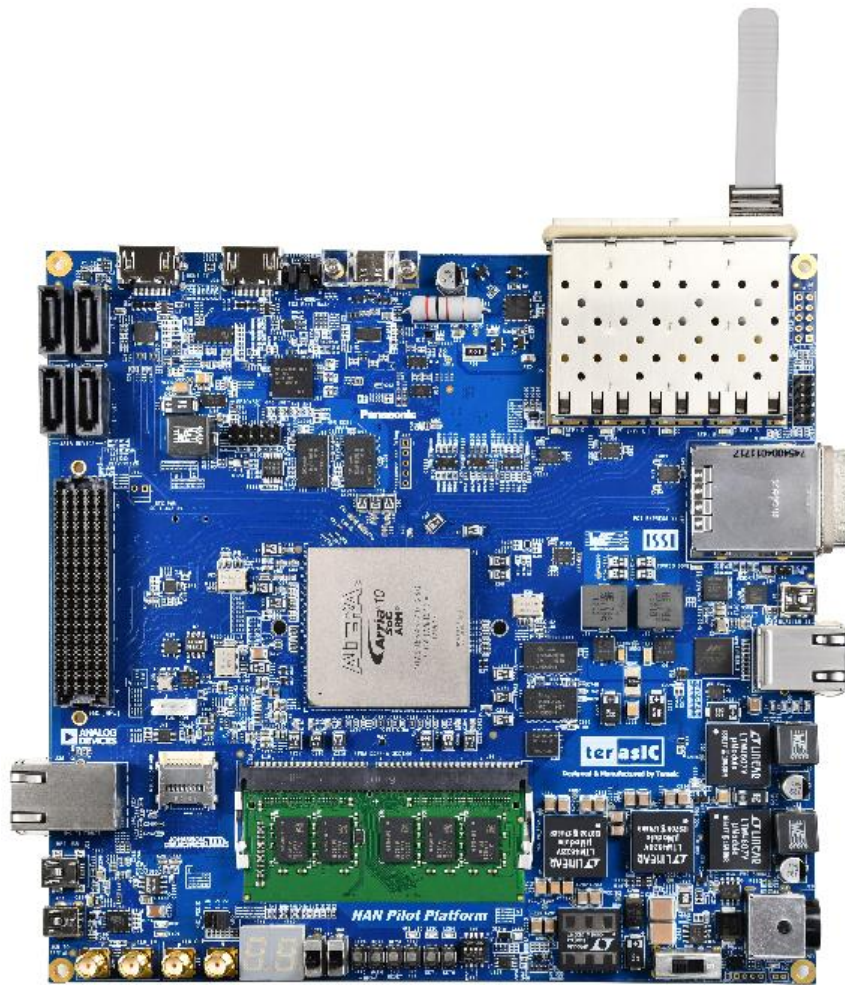

Figure 2-28 SFP+-A loopback on the HAN Pilot Platform
1. Insert a SFP+ loopback fixture into the SFP+-A port on the HAN Pilot Platform as shown in **Figure 2-28**.